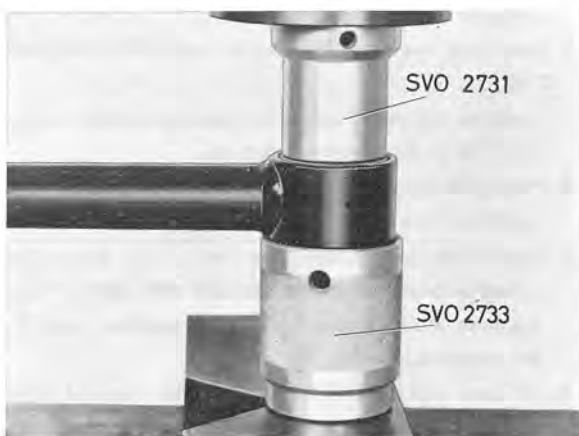

Fig. 7-12. Removing large bush, track bar
3. Check the bushes. If necessary, press out the small bushes with 2730 using 2733 as a counterhold. (Fig. 7-12). Pressing in the bushes can be done with the same tools only in this case 2731 is reversed (Fig. 7-13).
4. Fit the bar with the screw to the frame bracket (12).